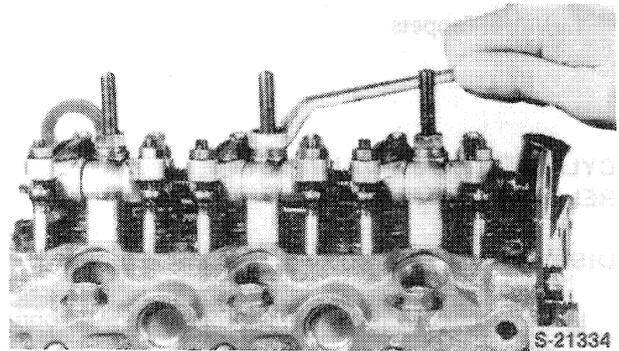

Figure 26
12. Remove the valve rocker shaft as an assembly, Figure 26.